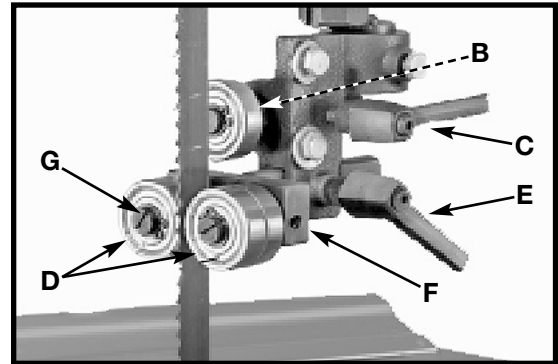

Fig. 22
Adjust the blade support bearing (B) Fig. 22 so that it is within 1/64" of, but not touching the back of the saw blade when the blade is at rest. To adjust, loosen the indexable locking lever (C) and slide the bracket in or out until the adjustment is correct. Tighten the lever (C). Adjust the blade guide bearings (D) by loosening the screw (F) and rotating the bearing on the shaft (G) so that the bearings touch, but do not pinch the blade. Tighten the screw (F). Position the front edge of the guide bearings just behind the "gullets" of the saw teeth. To adjust, loosen indexable locking lever (E) and slide the bearing assembly in or out until the adjustment is correct. Tighten the lever.